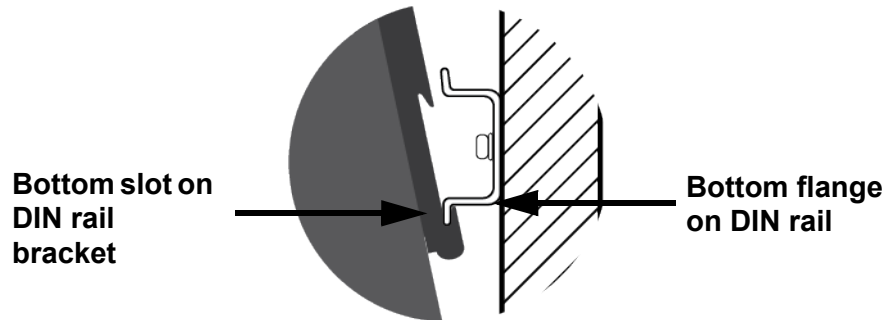

Figure 27. Installing the Switch on a DIN Rail - 1
2. Hook the bottom flange on the DIN rail into the bottom slot on the DIN rail bracket on the switch. Refer to Figure 27.